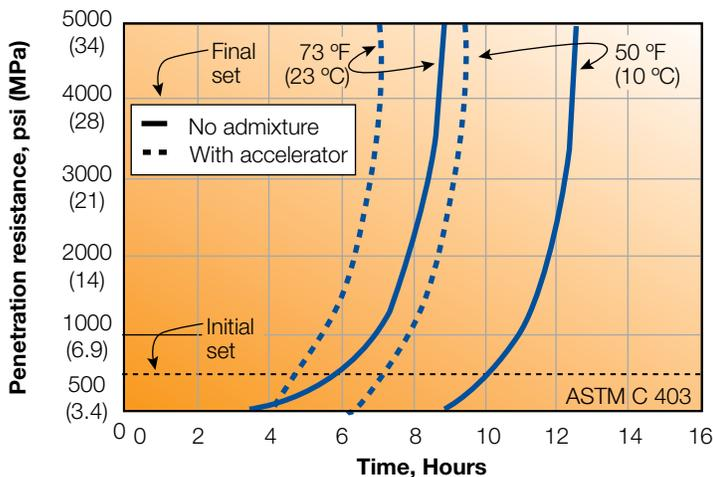

Figure 3. Effect of Concrete Temperature and Accelerating Admixture on Setting Time
- faster rate of setting (see Figure 3)